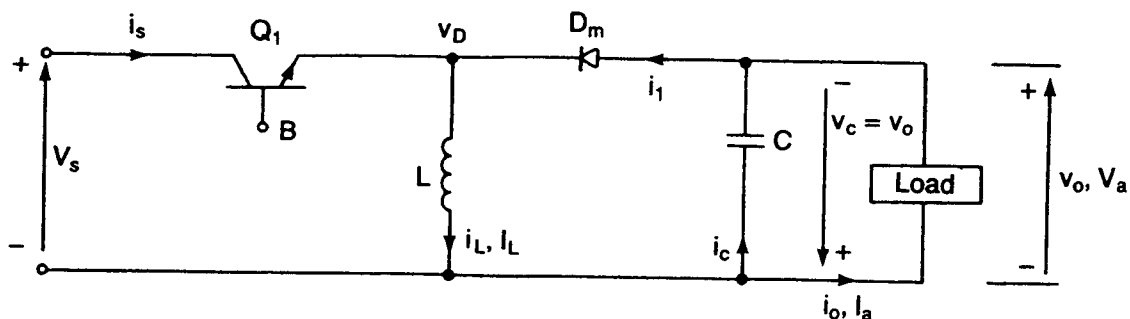

fig.Q3
- (a) A flyback regulator operating in continuous mode is shown in fig.Q3. Derive an expression in terms of the circuit parameters, switching frequency, f , and duty cycle, k , for the
- (b) The flyback regulator shown in fig.Q3 has an input voltage of $V_s = 9$ V. The duty cycle, $k = 0.4$, and the switching frequency is 20 KHz. The inductance $L = 200\mu\text{H}$ and the filter capacitor $C = 220\mu\text{F}$. The average load current $I_a = 1.5$ A. Determine the
- (c) With reference to fig.Q3, show that, for continuous mode operation, the following inequality holds